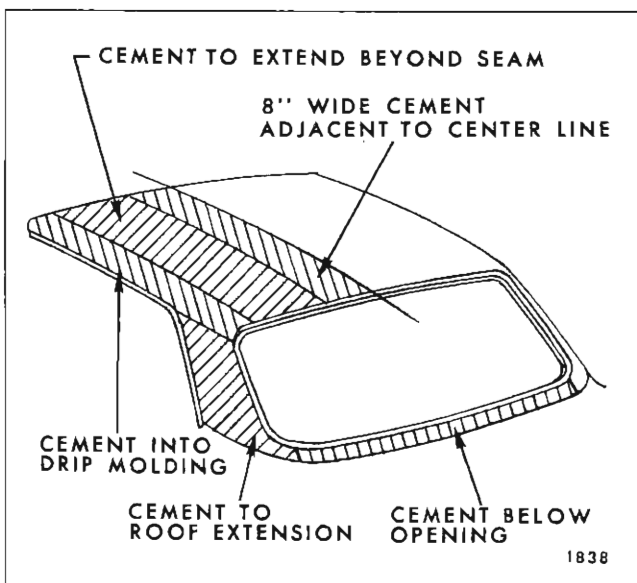

Fig. 2J4—Cementing Fabric Roof Cover
j. At windshield and back window openings cement cover into opening. Apply extra bead of cement to each side of dielectric seam between fabric cover and roof panel at windshield and back window openings. (View "A & B", Fig. 2J3).
l. Cement fabric cover to rear compartment front and shelf below back window opening. Be certain dielectric seams are straight. (See View "C", Fig. 2J3).